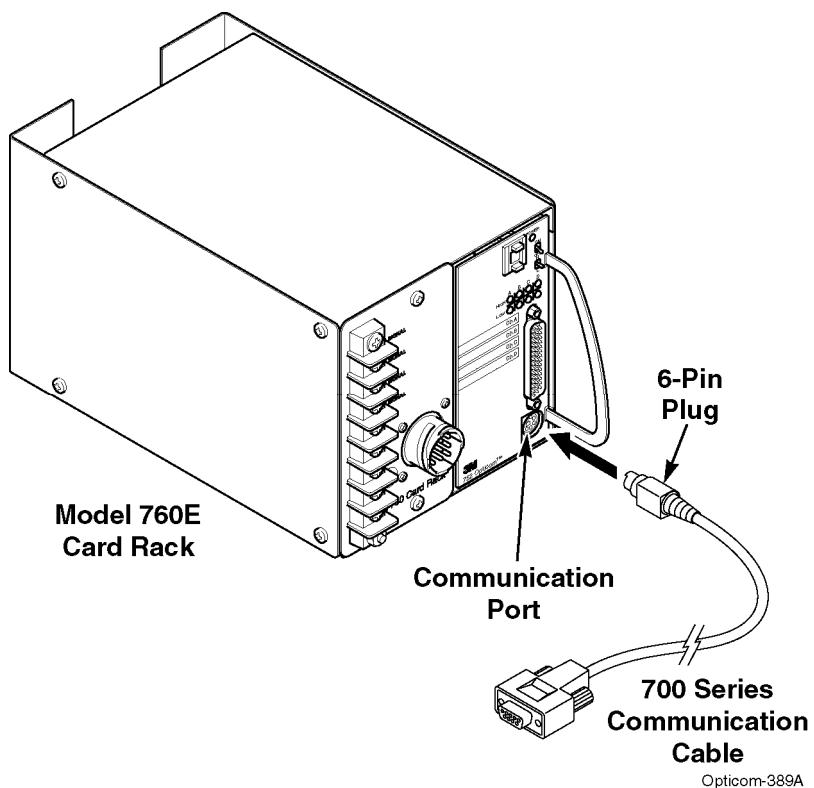

Figure 5-15. 700 Series Communication Cable Installation
1. Plug the 6-pin end of the 700 series communication cable into the communication port on the front of the Model 752E or 754E phase selector. See Figure 5-15.